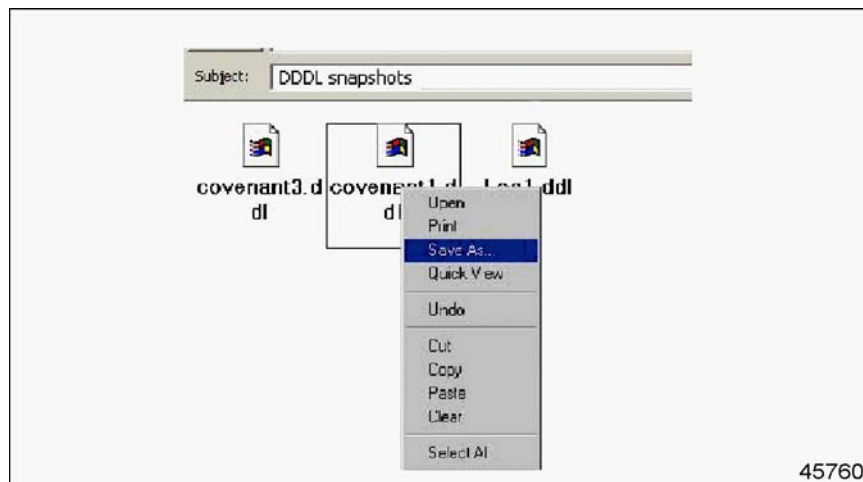

Figure 6-21 Receiving the Snapshot Files from the E-mail Message
9. The receiver of the files just reverses the process in order to read them with *Diagnostic Link*. See Figure 6-21.